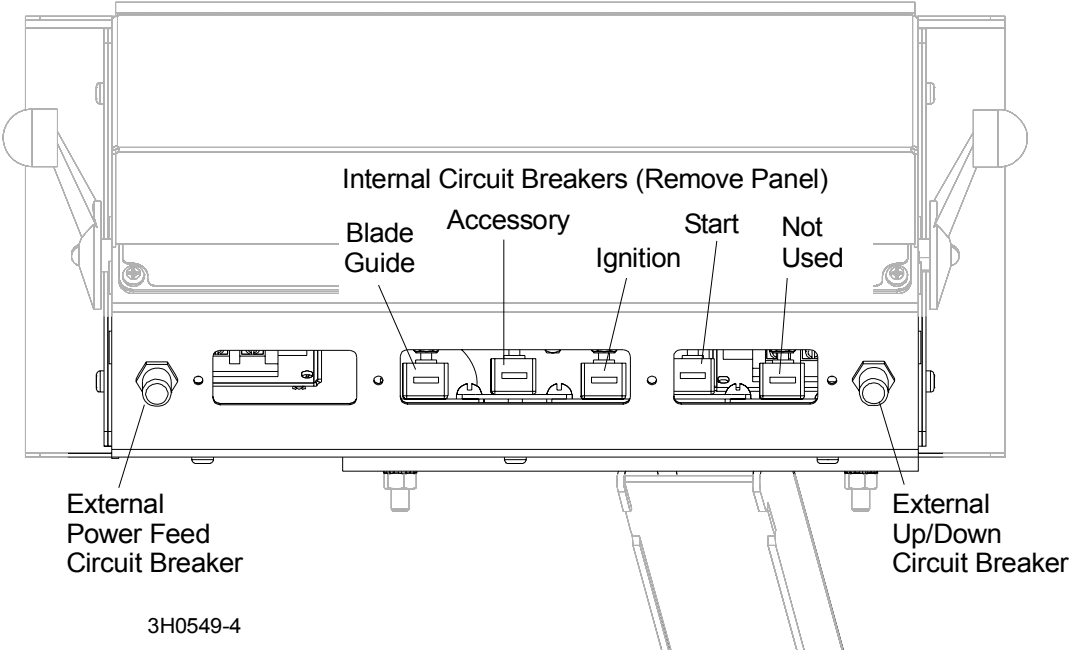

FIG. 4-3
**See Figure 4-3.** The power feed and up/down breakers are externally mounted at the front of the control box. The blade guide, accessory, ignition, and start breakers are located inside the control box. Remove the circuit breaker panel from the control box to access the internal breakers.